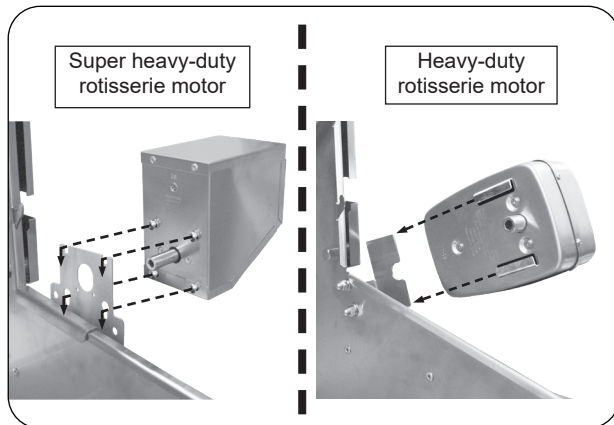

Fig. 35-2 Install rotisserie motor
2. Slide the rotisserie motor fully onto the motor bracket located on the right side of the grill (see Fig. 35-2) and connect it to a power source (do not turn on).